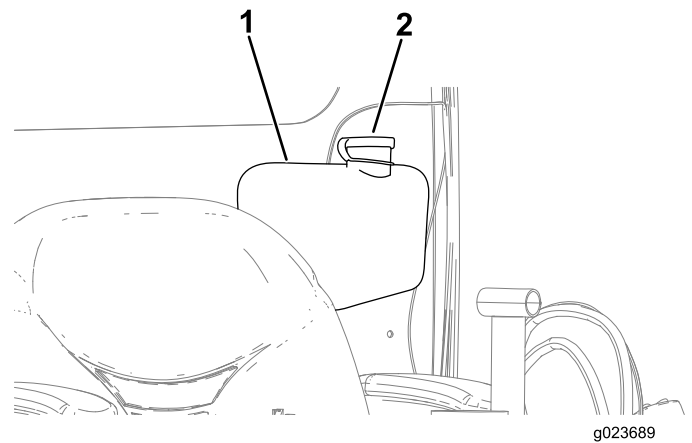

Figure 164
2. Open the cap of the windshield-washer-fluid tank (Figure 164).
3. Fill the windshield-washer-fluid tank until it is full (Figure 164).
4. Close the windshield-washer-fluid-tank cap (Figure 164).